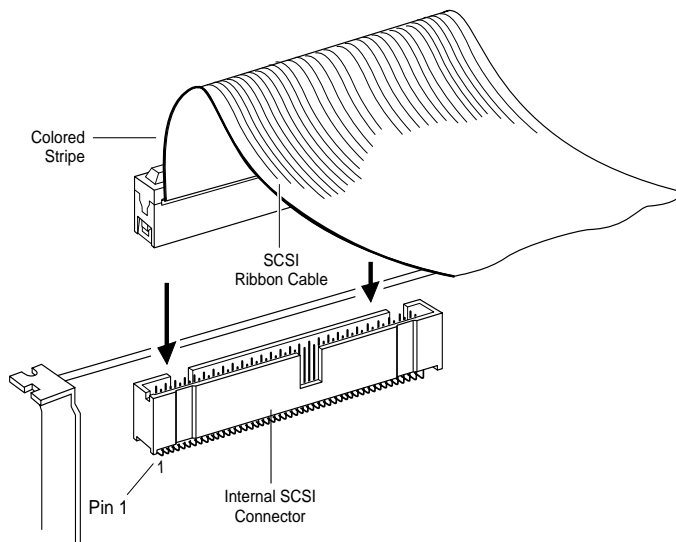

Figure 2-6. Internal SCSI Ribbon Cable to Host Adapter
- 1 Plug the SCSI connector at one end of the SCSI ribbon cable into one of the host adapter's internal SCSI connectors, as shown in Figure 2-6. Line up the colored stripe on the ribbon cable with the number 1 printed below the connector on the host adapter. This is called maintaining *pin-1 orientation*. Maintain pin-1 orientation throughout the SCSI bus, or the devices will not work properly.